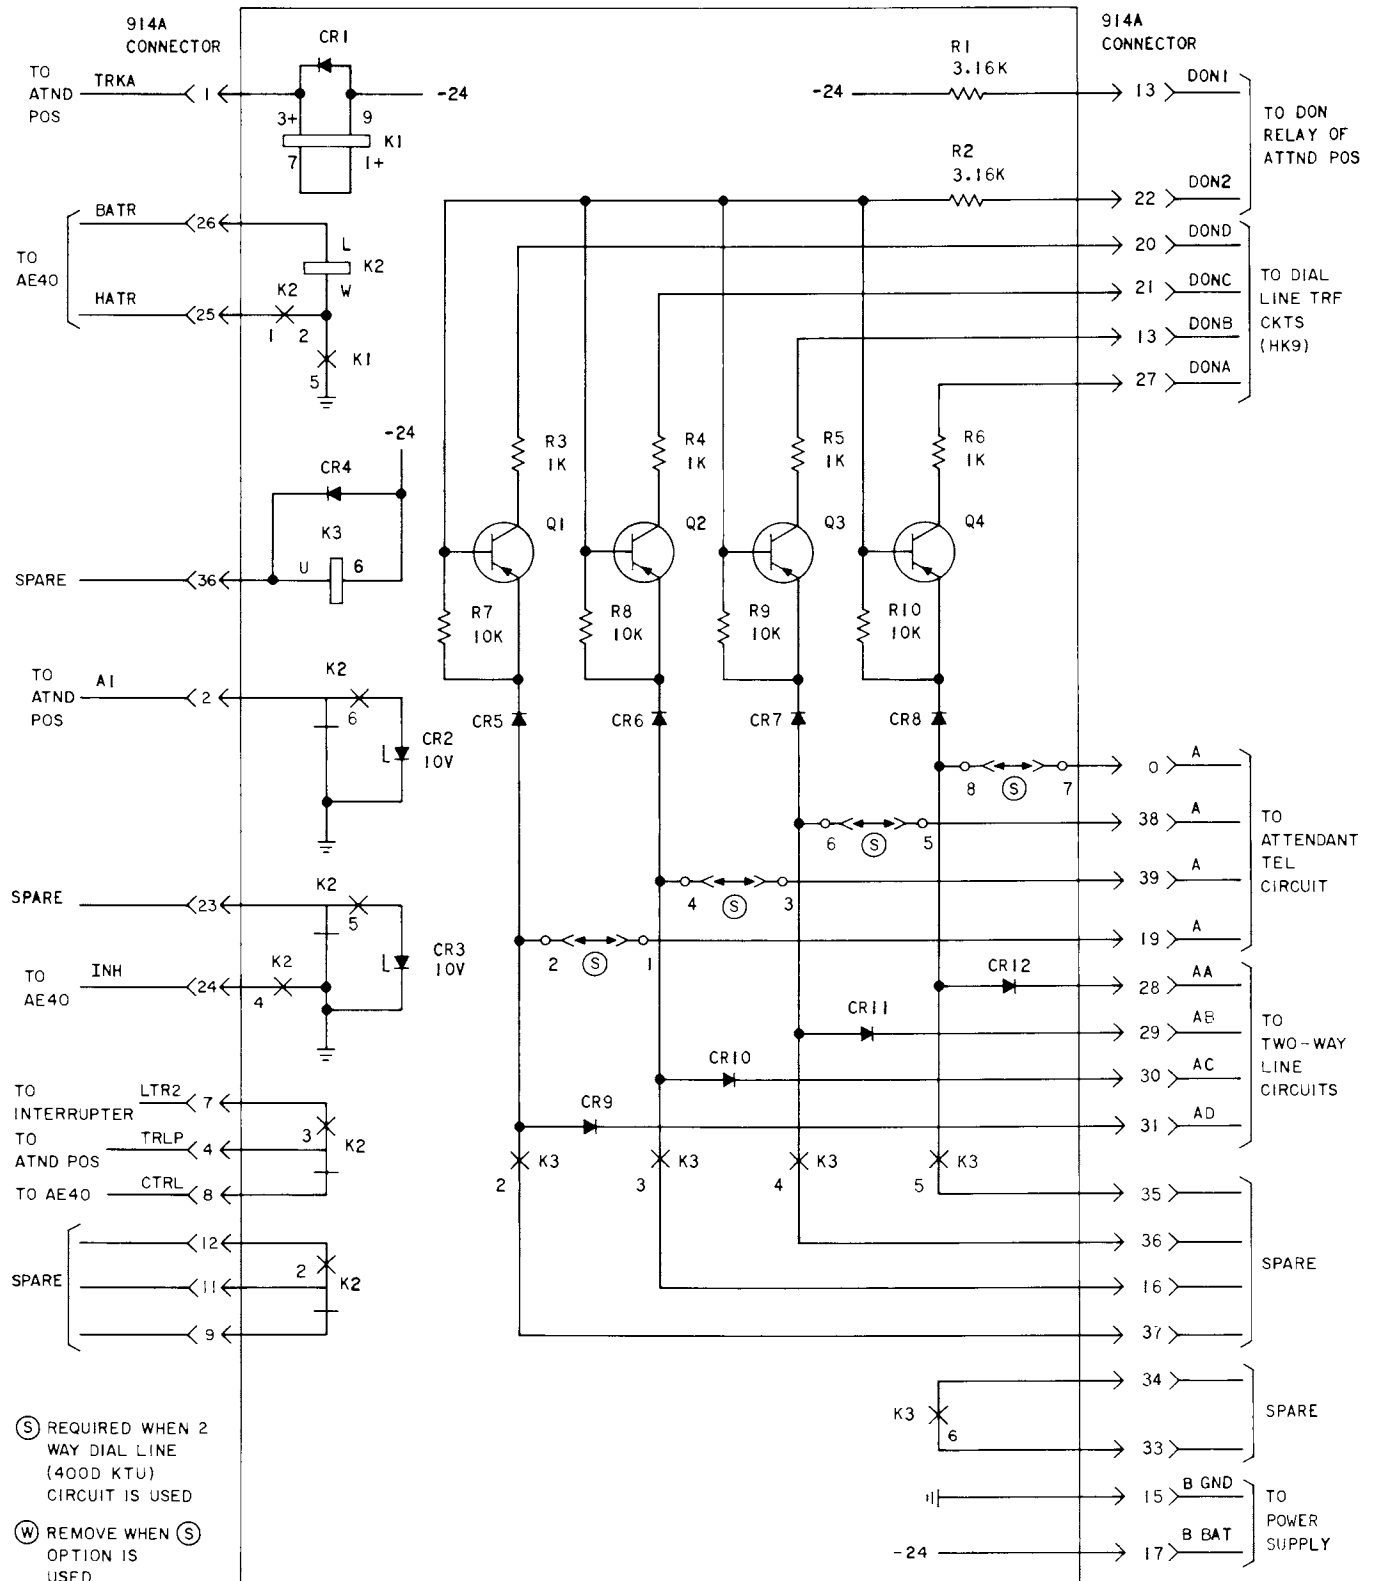

Fig. 5—Condensed Functional Schematic of Circuit Pack AE35 (Position Transfer Circuit)
3.02 The AE35 (Fig. 5) provides the function which allows the 911 attendant to initiate a call transfer, including dialing when an incoming 911 call is being transferred to an outgoing dial line. One AE35 is required for each attendant position.